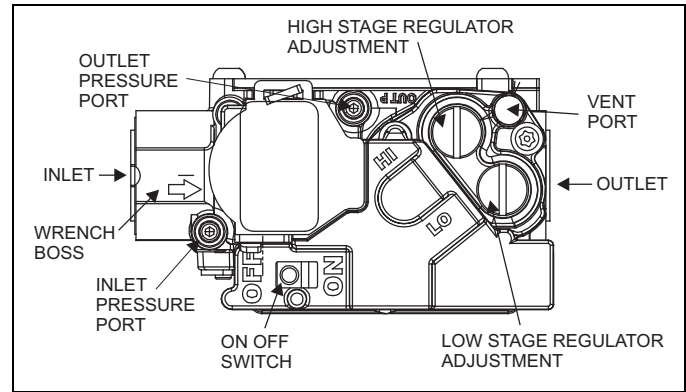

FIGURE 9: Two-Stage Gas Valve
2. Check that the manual gas shut-off valve in the gas piping supply is turned to the ON position. Refer to Figure 9.